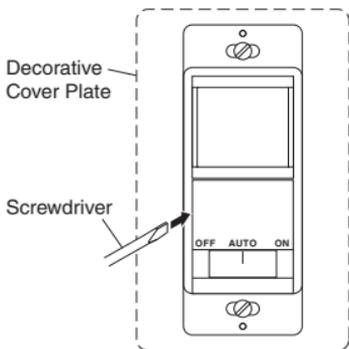

Figure 5 - Removing Control Panel Cover
2. Remove control panel cover by gently pressing in with screwdriver and prying cover off (see Figure 5).